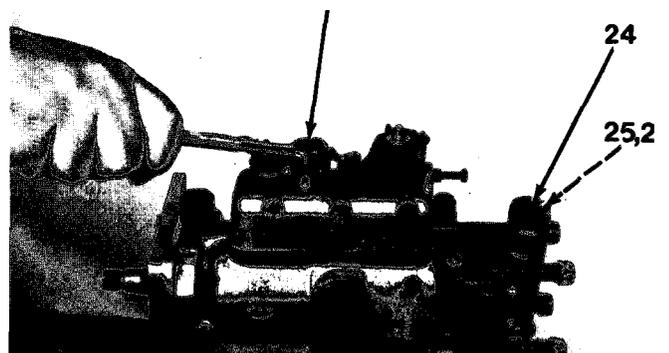

Figure 7-18
6. Remove orifice bleed fitting (22) and washer (23, Figure 7-18).
7. Remove inlet fitting (24), washer (25) and filter (26).